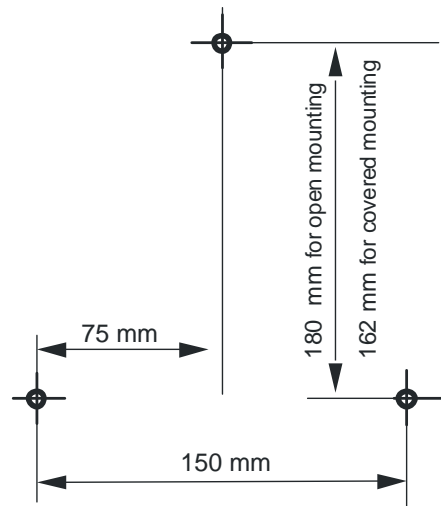

Fig. 4.1 Drilling plan
4. Mark the three fixing points (suspension triangle as shown in the drilling plan Fig. 4.1) on the mounting surface provided.